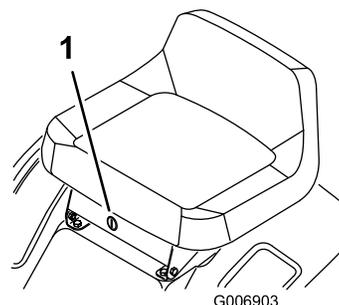

Figure 20
If you need to use the blade control (PTO) while backing up, turn off the interlock feature using the reverse interlock switch located near the seat bracket (Figure 20).
2. Insert the reverse interlock key into the switch (Figure 20).